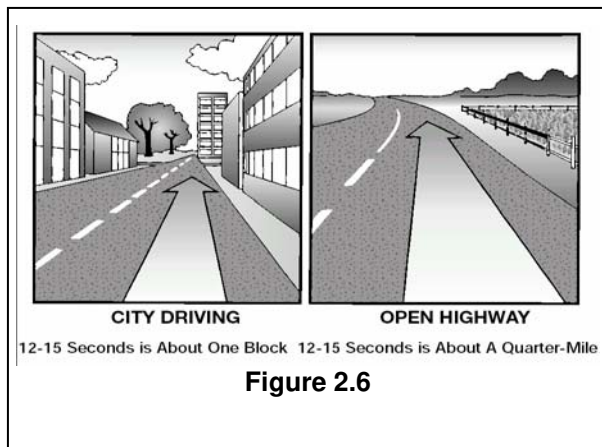

Figure 2.6
**How Far Ahead to Look.** Most good drivers look at least 12 to 15 seconds ahead. That means looking ahead the distance you will travel in 12 to 15 seconds. At lower speeds, that is about one block. At highway speeds it's about a quarter of a mile. If you are not looking that far ahead, you may have to stop too quickly or make quick lane changes. Looking 12 to 15 seconds ahead does not mean not paying attention to things that are closer. Good drivers shift their attention back and forth, near and far. Figure 2.6 illustrates how far to look ahead.